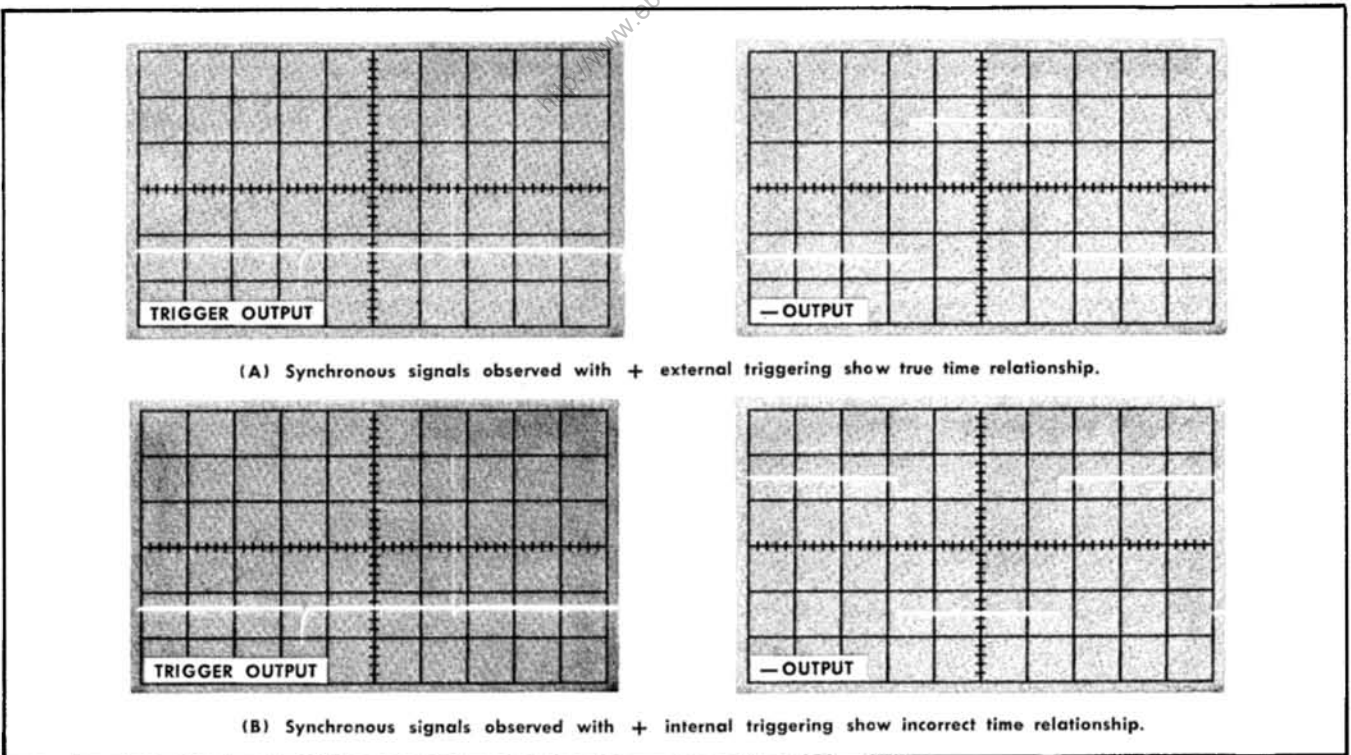

Fig. 2-13. Importance of external triggering for phase or polarity comparison. (Signals supplied by Tektronix Type 106 Square-Wave Generator.)
**Phase and Polarity Relationships.** When internal triggering is used, the signal slope displayed at the beginning of the sweep is dependent upon the trigger slope selected by the operator. If a comparison of phase or polarity is required, use external triggering and the same trigger source for the entire sequence of phase or polarity comparisons. The examples in Fig. 2-13(B) use + internal triggering and give the indication that the positive spike is coincident with the rising portion of the square wave. The examples given in Fig. 2-13(A) both use the same + external trigger source and show that the square wave actually goes negative at the time the positive spike occurs.